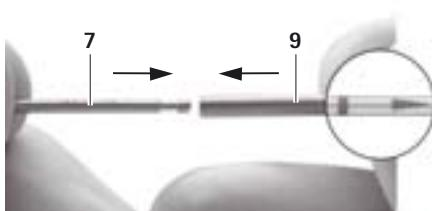

Fig. 6
- Slide outer tube 10 over inner tube 9 onto working insert 7 as far as it will go, see Fig. 6.